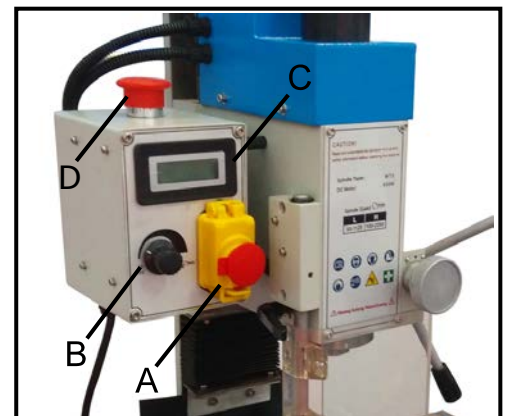

Fig.12
**Magnetic Switch (A, Fig.12)** has the function of the protective function to the machine and electric components. Green push button marked "I" to start the motor, Red push button marked "O" to switch the motor off.
**Speed Control Knob (B, Fig. 12)** turn it clockwise to increase the spindle speed, reverse to decrease. The knob should be turned to zero each time the machine is stopped. Always start the machine with the knob set at zero.
**Spindle Speed Readout (C, Fig.12)** show the actual speed of the spindle .
**Emergency Stop Switch (D, Fig. 12 )** has the fuction of emergency stoping and protective the user and the machine when accident is happened.